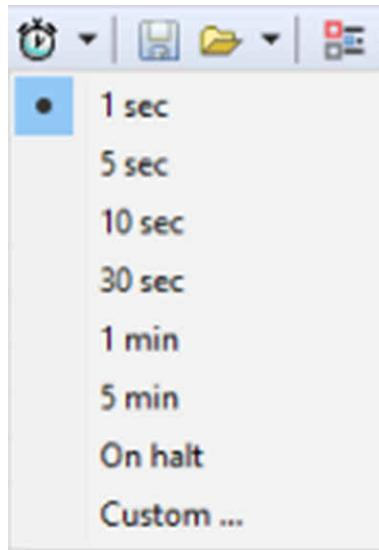

Figure 7-6. Set Measurement Duration
- Select how long you want to capture data by clicking the 'Set Measurement Duration' button (see Figure 7-6).